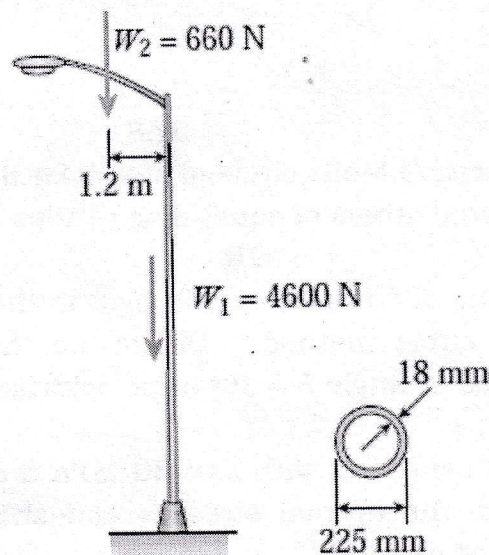

fig.6
- b) An aluminum pole for a street light weighs  $4600 \text{ N}$  and supports an arm that weighs  $660 \text{ N}$  as shown in fig 6. The center of gravity of the arm is at  $1.2 \text{ m}$  from the axis of the pole. The outside dia of pole at its base is  $225 \text{ mm}$  and thickness of  $18 \text{ mm}$ . Determine the maximum and minimum stresses developed at base. [4]